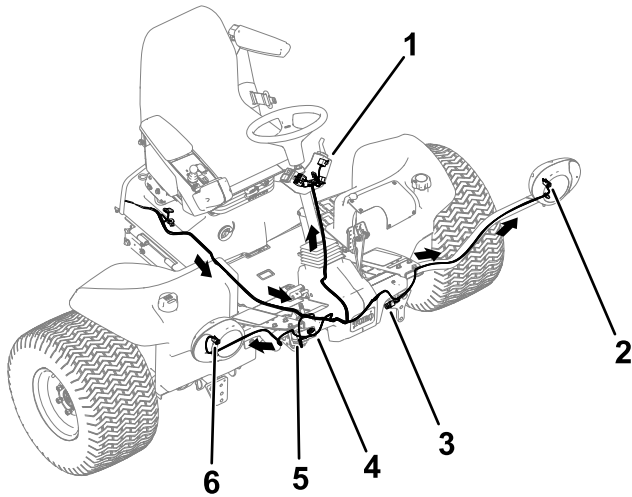

Figure 19
1. Route the front end of the wire harness under the operator platform to the front of the machine (Figure 19).
2. Thread each harness connector through the appropriate headlight bracket and connect it to the headlight (Figure 19).
3. Plug the wire harness lead with the 2 connectors into the horn (Figure 19).
5. Plug the light-kit wire harness connectors into the shroud headlights (Figure 19).
8. Route the wire harness to the column-bracket assembly on the steering column (Figure 19).